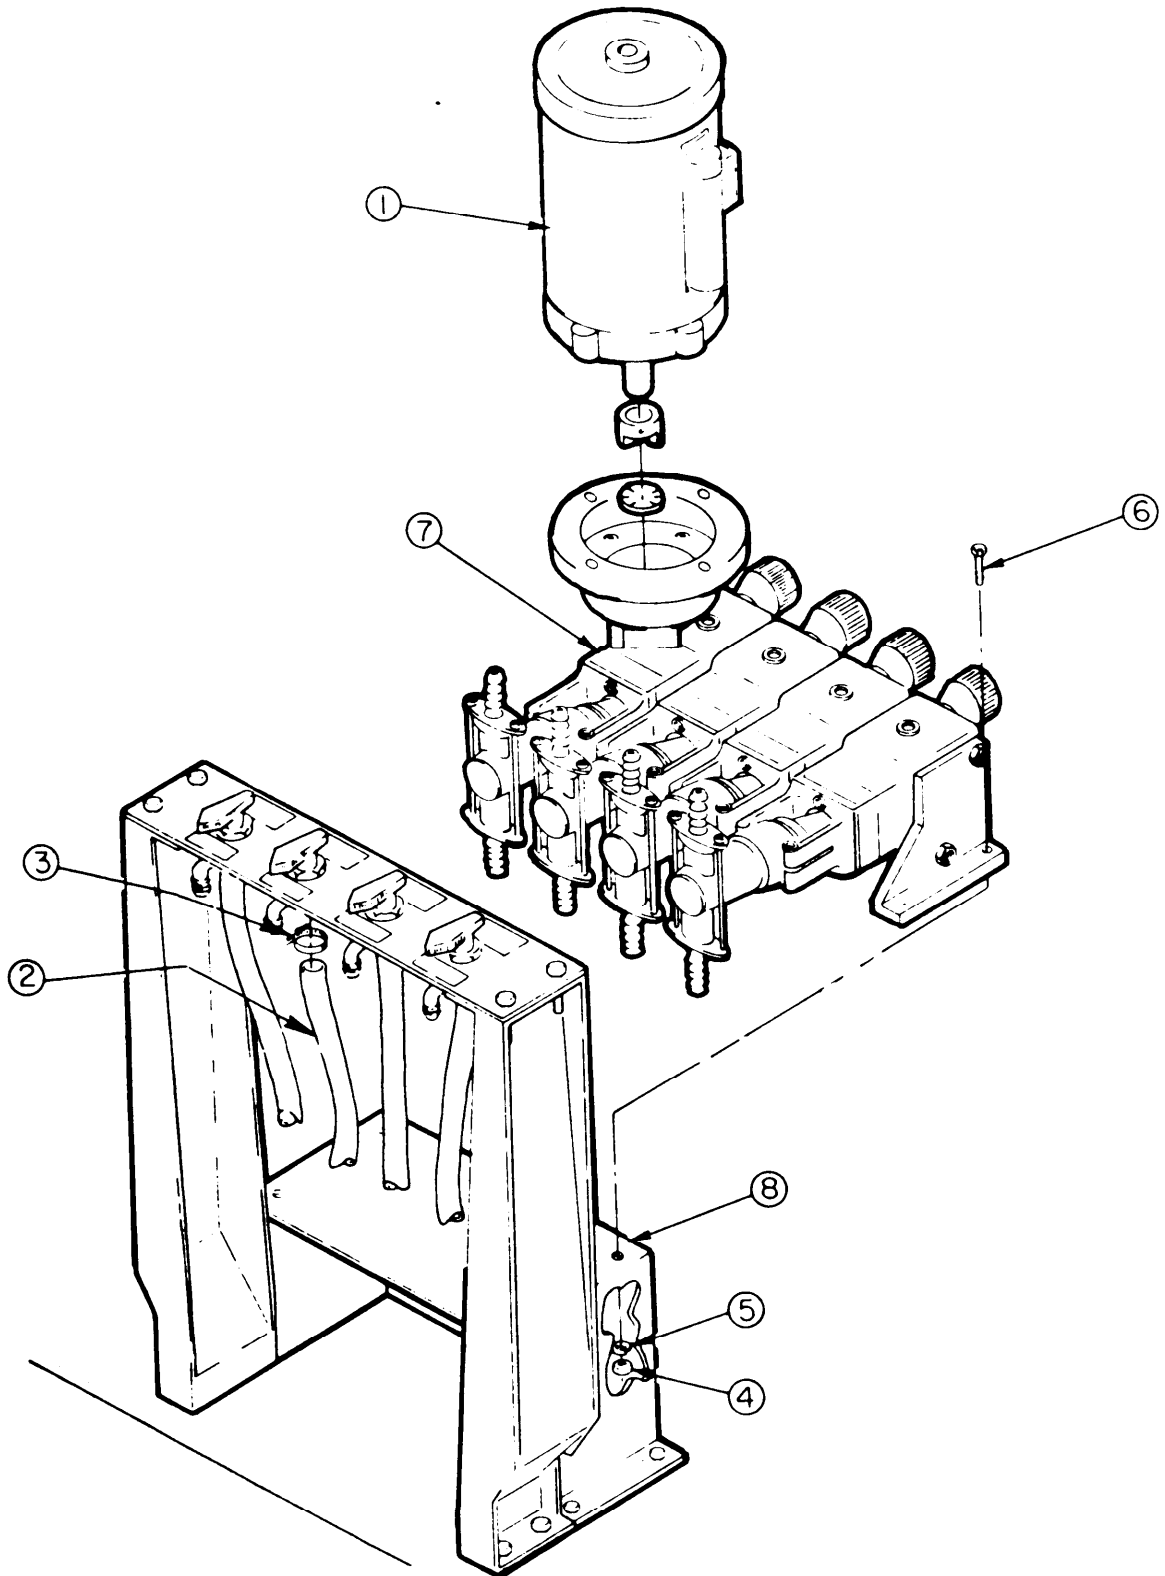
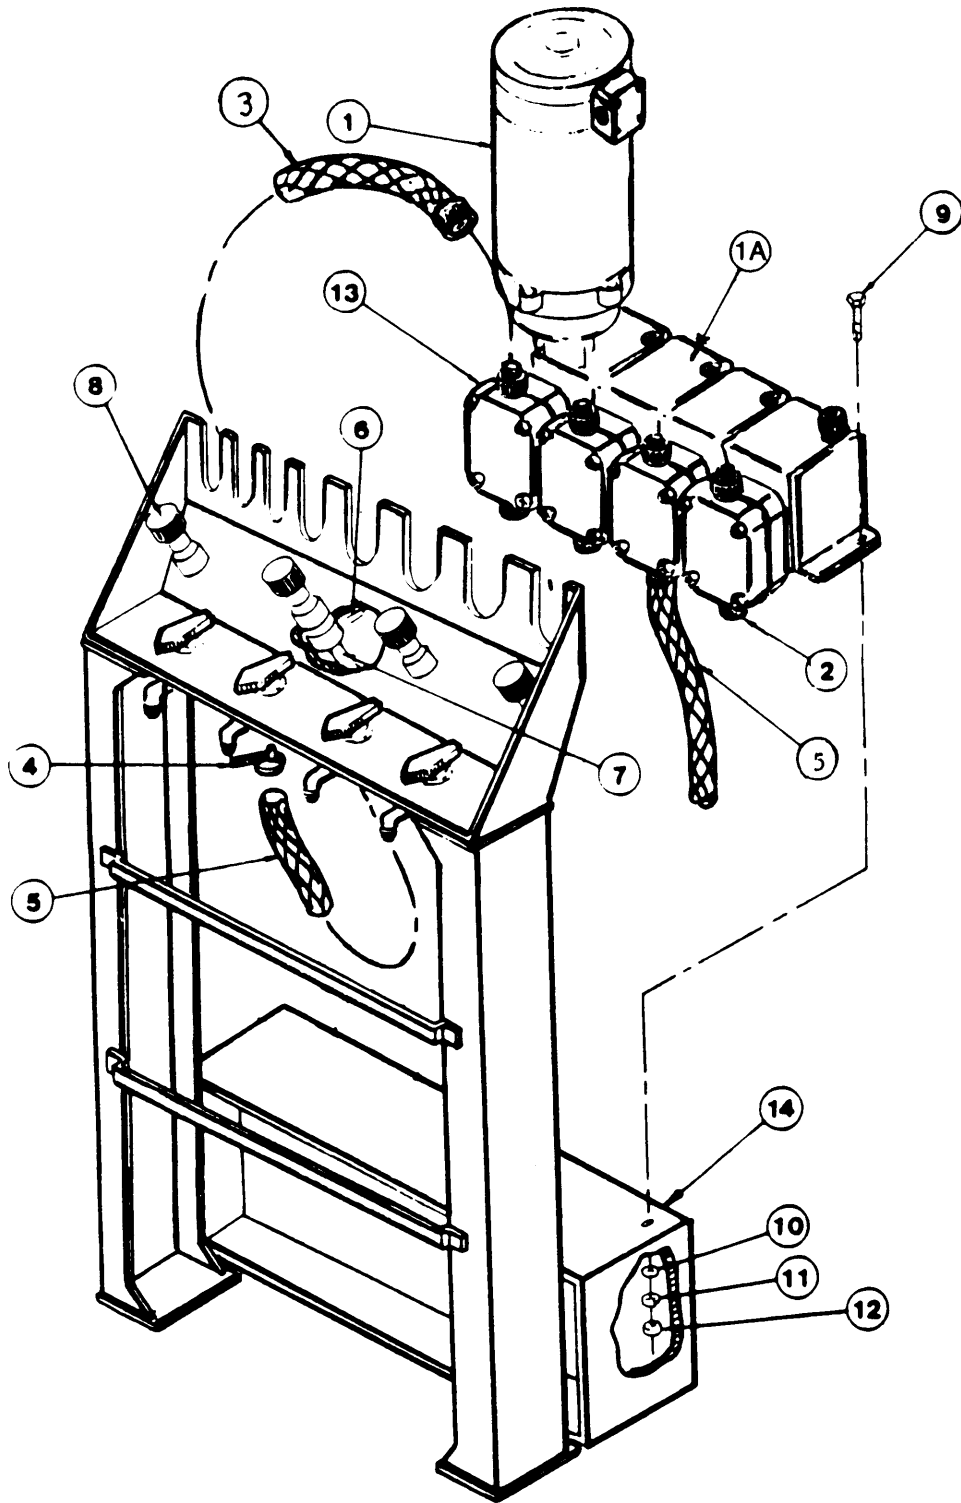

Figure 2-81. Chemical Feed Pump Assembly (ARMY)
Figure 2-82. Chemical Feed Pump Assembly (USMC)
b. Removal. (Figure 2-81) (ARMY)
- (1) Remove the chemical feed pump motor (1) in accordance with paragraph 248.
- (2) Loosen eight hose clamps (3) and pull plastic tubing (2) off the nipples of the pump (7).
- (3) Remove and discard hose clamps (3).
- (4) Remove four nuts (4) and four lockwashers (5) from bolts (6).
- (5) Remove four bolts (6) from stand (8) and pump (7).
- (6) Remove the pump (7) from the stand (8).
c. Removal. (Figure 2-82) (USMC)
- (1) Remove the chemical feed pump motor (1) in accordance with paragraph 2-48.
- (2) Loosen clamp (4).
- (3) Unscrew four nuts (2) and remove priming hoses (3) from top of feed pump heads (13).
- (4) Unscrew four nuts (2) and remove discharge hoses (5) from bottom of feed pump heads (13).
(1) Replace damaged nuts, bolts, screws, and washers.
(2) Replace plastic tubing and hose clamps.
(3) Replace damaged or unserviceable electric chemical feed pump motor.
(4) Replace damaged or worn drive coupling or pump head assembly.
(5) Replace damaged or unrepairable pump mounting stand assembly.
(6) Replace damaged or unserviceable chemical feed pump valve assembly.
(7) Send damaged or unserviceable components to Direct Support Maintenance.
g. Installation.(Figure 2-81) (ARMY)
(1) Place pump (7) on stand (8) and align mounting holes.
(2) Insert four bolts (6) through chemical-feed pump (7) and stand (8).
(3) Install four lockwashers (5) and four nuts (4) on bolts (6).
(4) Slide eight new hose clamps (3) over four hoses (2).
(5) Slide top of four new plastic tubes (2) over four nipples of pump (7).
(6) Tighten four hose clamps (3) over tube and nipple.
(7) Install the chemical feed pump motor (1) in accordance with paragraph 2-48.
h. Installation. (Figure 2-82) (USMC)
(1) Position pump assembly (1A) on pump stand (14) and secure using bolts (9), washers (10), lockwashers (11), and nuts (12).